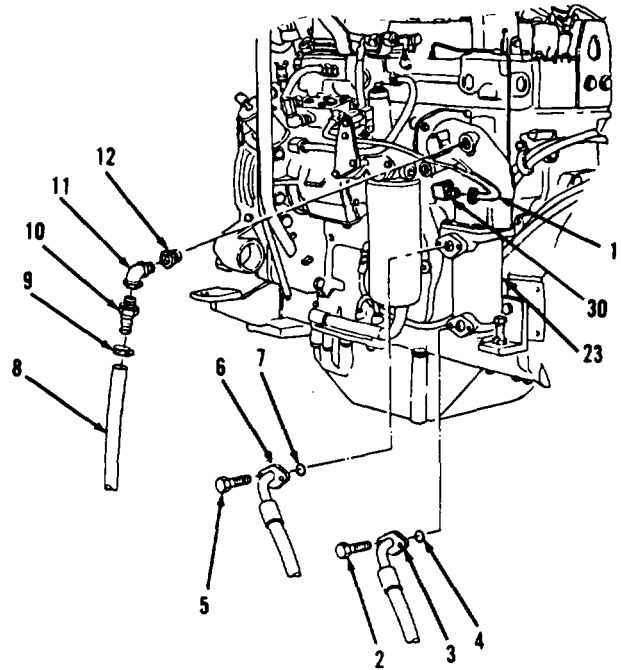

Figure 5-60.
1. Disconnect air line (1) from elbow (30, Figure 5-60).
2. Remove bolt (2), oil line (3) and preformed packing (4) from transmission oil cooler core (23). Discard preformed packing (4).
3. Remove bolt (5), oil line (6) and preformed packing (7) from transmission oil cooler core (23). Discard preformed packing (7).
4. Loosen clamp (9) and slide down on water hose (8).
5. Remove water hose (8), clamp (9), adapter (10), elbow (11) and adapter (12).
2. Install bolts (15 and 14) and four bolts (13).
3. Install adapter (12), elbow (11) and adapter (10, Figure 5-60).
4. Slide clamp (9) onto water hose (8).
5. Install water hose (8) and clamp (9).
6. Install new preformed packing (7), oil line (6) and bolt (5).
7. Install new preformed packing (4), oil line (3) and bolt (2).
8. Connect air line (1) on elbow (30).